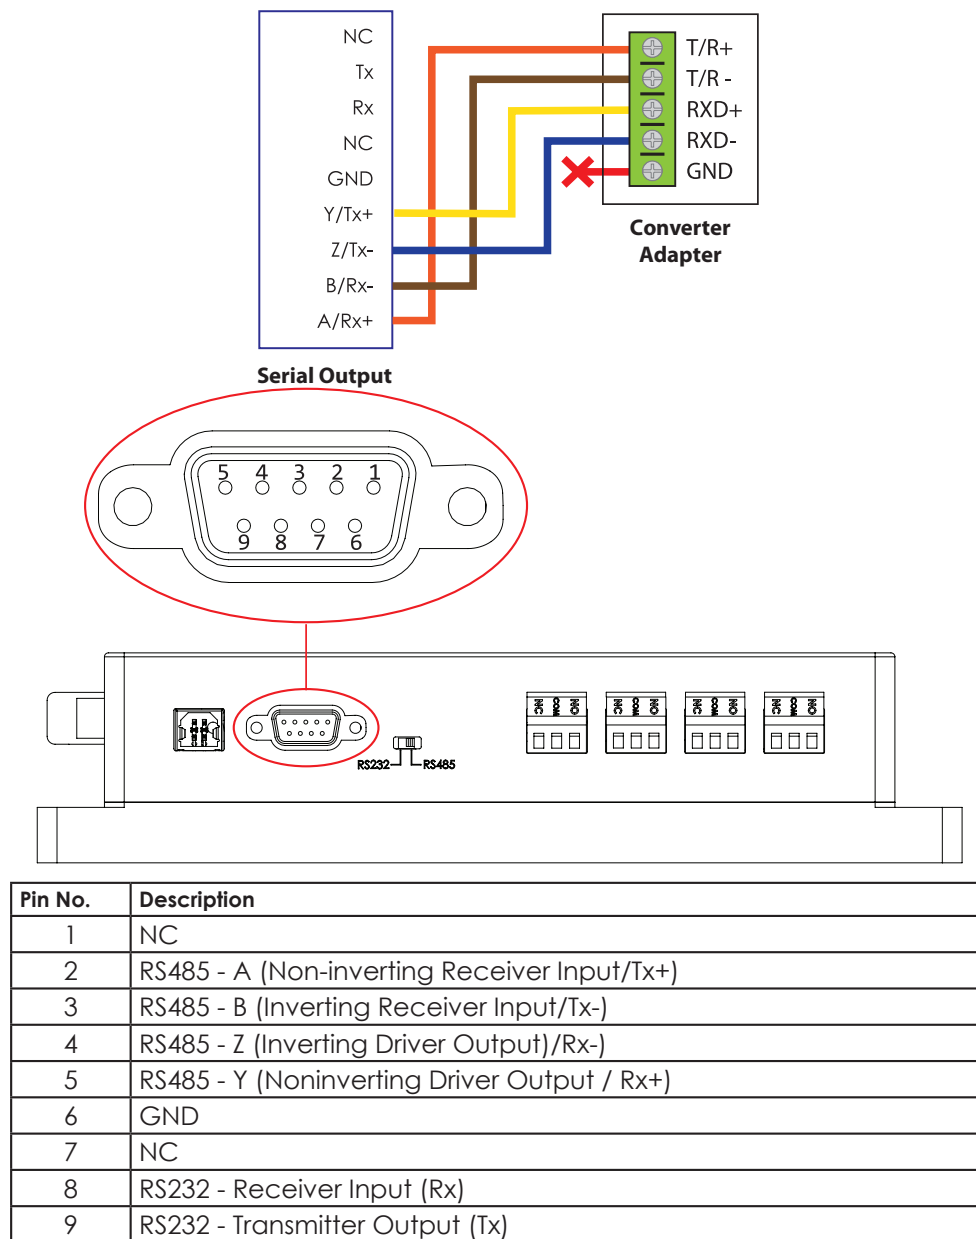

Figure 9. The connection pinout of RS485 Serial Output with Converter in RS485 mode
6. The connection wiring pinout of the control box RS485 serial output is illustrated in Figure 9.